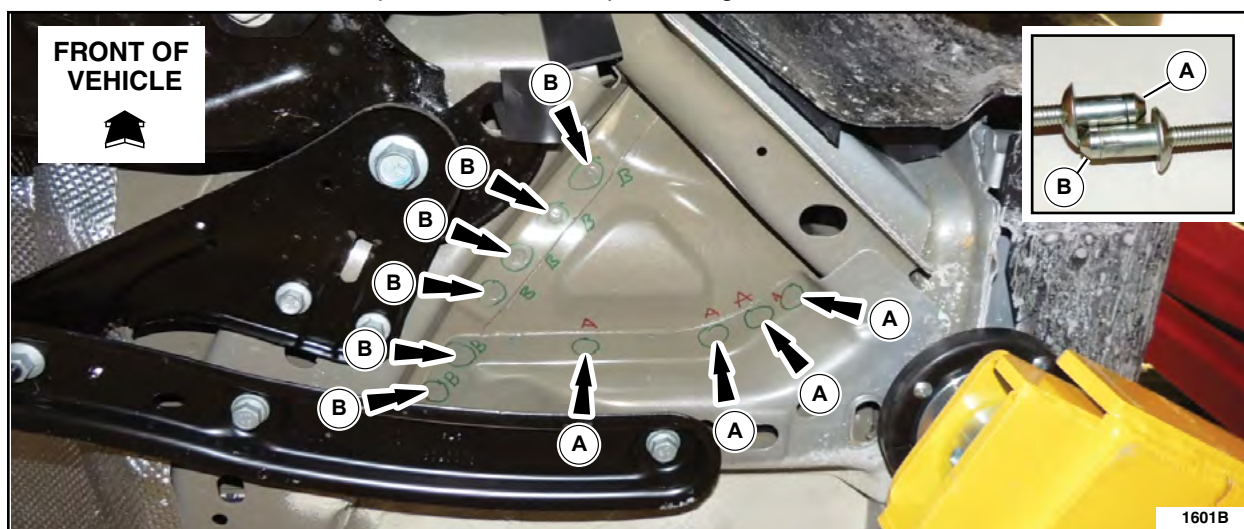

FIGURE 2
NOTE: Figure 2 shows a vehicle with ten (10) correctly applied factory spot welds. On the affected vehicles, these spot welds are inadequate or missing, and were replaced with rivets. Each spot weld location point must contain a rivet. See Figure 2.
2. Locate the rivets installed into the floor pan seam, under the vehicle behind the LH front tire. Inspect the rivets for proper installation. See Figures 2, 3a and 3b.
- If the rivets are **installed and seated properly in each location**, no further action is required. See Figures 2, 3a and 3b.
- If any of the rivets are **installed but seated improperly**, proceed to Repair Procedure on Page 3. See Figures 2, 3a, and 3b.
- If a rivet is **not installed** in any of the ten (10) locations shown in Figure 2, install the correct rivet(s) as needed. Drill a hole in the appropriate location(s) using a suitable 17/64 in (6.75 mm) drill bit. Proceed to Repair Procedure, Step 6 on Page 5.
NOTE: Steps 3 and 4 are only required if replacing the rear most "B" rivet. See Figure 2.
- If replacing rivets at "A" locations, install a short "A" rivet. See Figure 2.
- If replacing rivets at "B" locations, install a longer "B" rivet. See Figure 2.